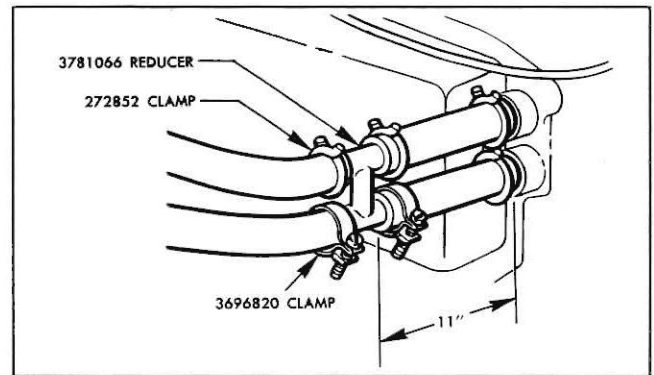

Fig. 12—Installing Reducer in Heater Hoses
If a gurgling noise, considered objectionable by an owner, is noted in the 1959-60 Passenger Car equipped with 348 cu. in. engine and Air Flow Heater or All Weather Air Conditioning, the noise may be minimized with the installation of a Reducer-Bypass Part No. 3781066, in the heater hoses (fig. 12).
4. Install reducer, using the two 3/4" spring type clamps on the upper hose, and the two 5/8" screw type clamps on the lower hose (fig. 12).